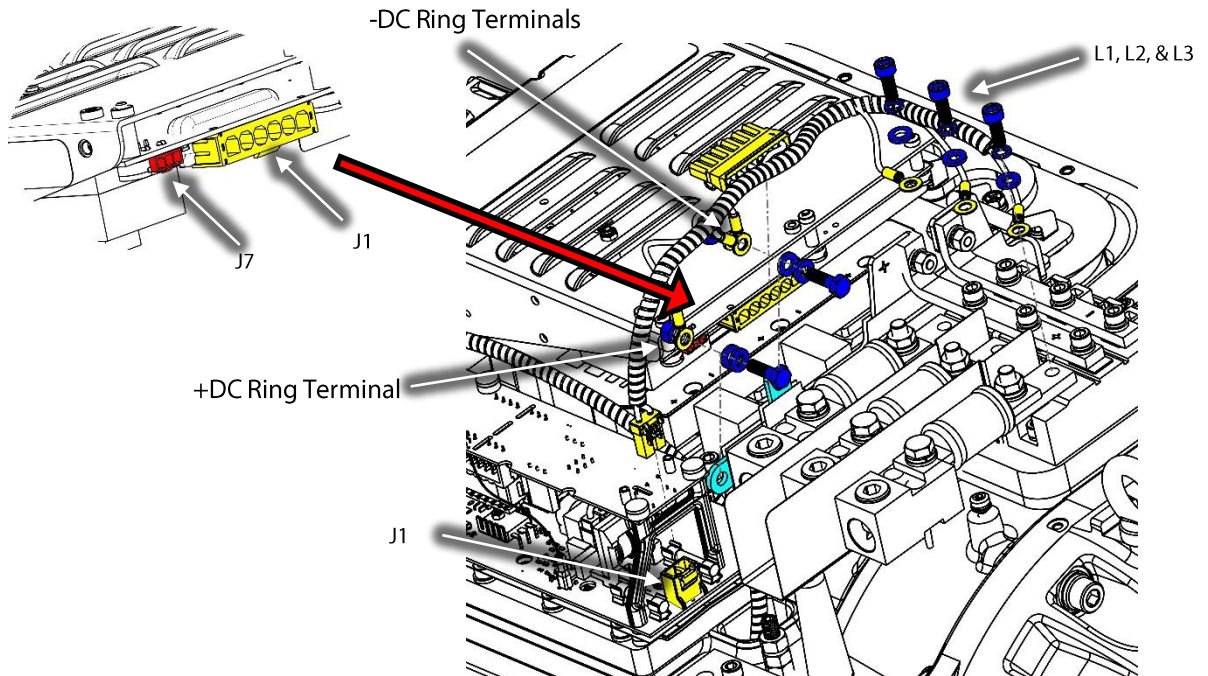
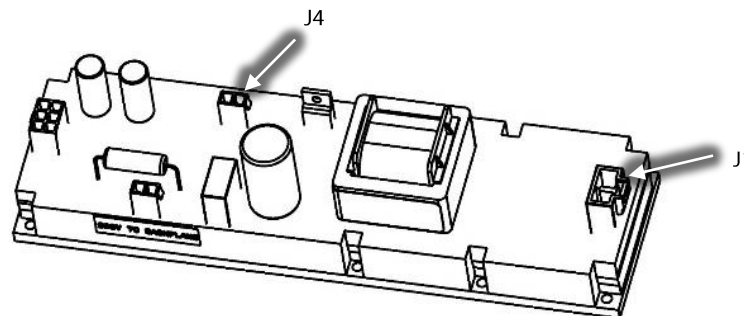

Figure 3 – Soft Start AC-DC Harness Removal
Figure 4 – Potted DC-DC Converter J1 and J4 Locations
5. Disconnect the three (3) ring terminals labeled L1, L2, and L3 from the AC bus bars. Refer to Figure 3 (Soft Start AC-DC Harness Removal) for this and the next three (3) steps.
6. Disconnect the two (2) -DC ring terminals from the -DC bus bar by removing the attaching hardware.
8. Remove the J1 DC-DC connector from the DC-DC Converter. Refer to Figure 3 (Soft Start AC-DC Harness Removal) if this compressor contains the Open Frame DC-DC Converter, or to Figure 4 (Potted DC-DC Converter J1 and J4 Locations) if this is a Potted DC-DC Converter.
9. If the DC-DC Converter is the potted style, remove the J4 connector from the DC-DC Converter. Refer to Figure 4 (Potted DC-DC Converter J1 and J4 Locations).
10. If the DC-DC Converter is the potted style, remove the J7 connector from the Soft Start. Refer to Figure 3 (Soft Start AC-DC Harness Removal) for this and the following step.
1. Place the wiring harness on top of the compressor. Refer to Figure 3 (Soft Start AC-DC Harness Removal) for this and the next five (5) steps.
4. Connect the two (2) -DC ring terminals to the -DC bus bar with the attaching hardware. Torque the fasteners to 10 Nm (89 in.lb.).
5. Connect the three (3) ring terminals labeled L1, L2, and L3 from the AC bus bars. Torque the M6x16 fasteners to 5 Nm (44 in.lb.).
7. Install the J1 DC-DC connector to the DC-DC Converter. Refer to Figure 3 (Soft Start AC-DC Harness Removal) if this compressor contains the Open Frame DC-DC Converter, or to Figure 4 (Potted DC-DC Converter J1 and J4 Locations) if this is a Potted DC-DC Converter.
8. If the DC-DC Converter is the potted style, install the J4 connector to the DC-DC Converter. Refer to Figure 4 (Potted DC-DC Converter J1 and J4 Locations).